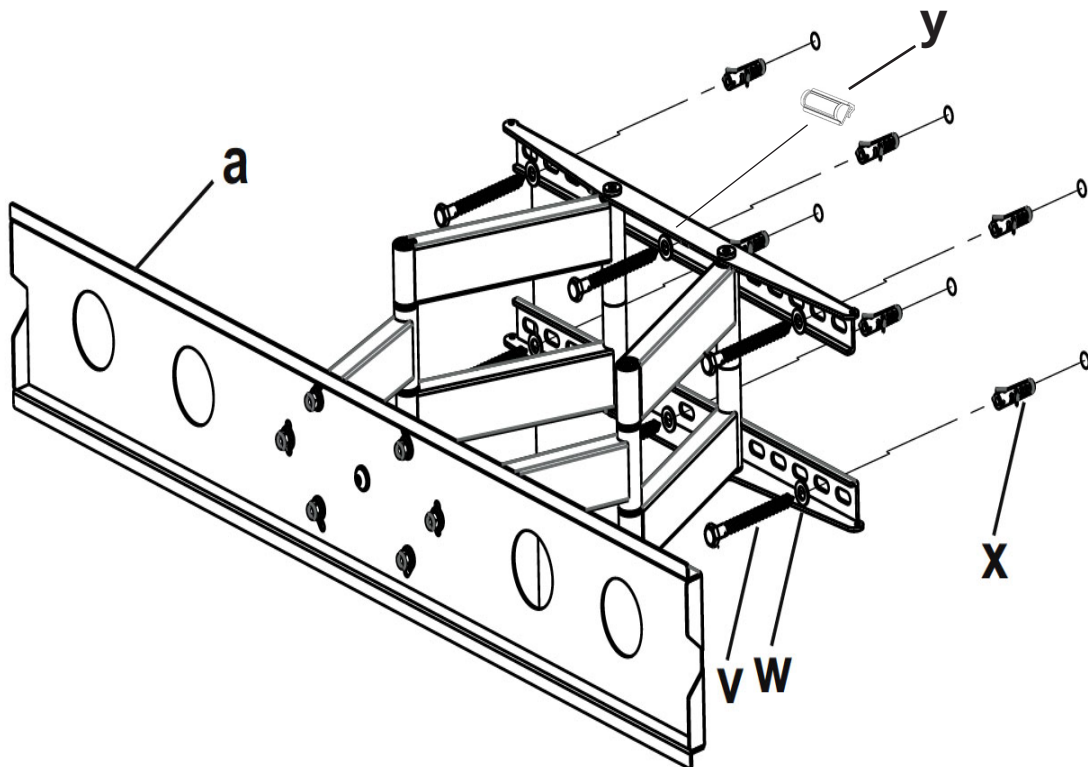

Figure 3
1. Mount the bubble level (y) onto the wall plate at the position shown. With the help of an assistant, place the wall plate onto the wall in the desired mounting location and check the bubble level to ensure it is level. See Figure 3.
2. Mark six holes, minimum of 6 inches apart, to be used for securing the mount, and place the wall plate aside. Locate the holes directly into the concrete or brick, never into the mortar between the blocks. See Figure 3.
7. Insert lag bolts (v) and washers (w) into the concrete anchors as shown and tighten. Do not fully tighten until all bolts are in place. See Figure 3.